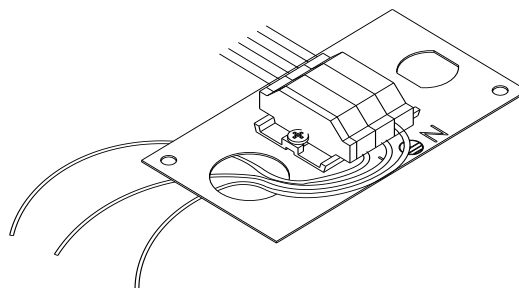

figure 4
- Ensure all junction block connections are tight. (Figure 4)